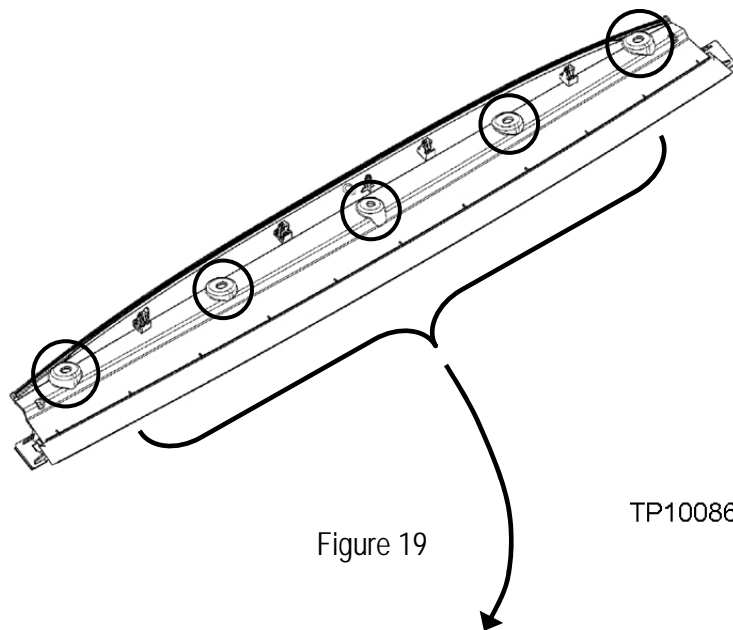

Figure 19
22. Apply these pieces where shown in Figure 19 and 20.